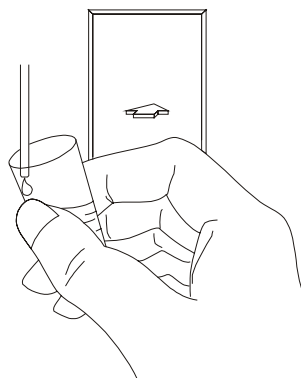

Figure 3-10 Adding diluent
3. Present a clean sample cup to the sample probe and press [START] to add 1.6ml diluent (controlled by the analyzer itself) to the cup. Be sure to incline the cup at the angle shown in Figure 3-10, to force the diluent to flow into the cup against the cup wall so that no bubbles will be produced during the process.